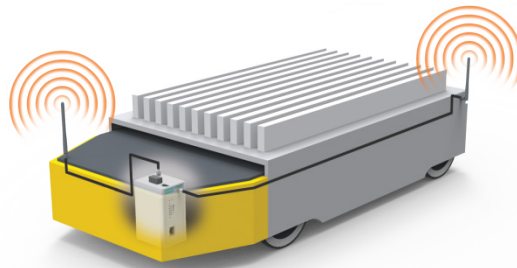

Fig. 6: Installing MIMO antennas on both ends of a moving vehicle can improve the quality of your wireless communication.
2.4-GHz and 5-GHz wireless transmission requires maintaining Line of Sight (LoS) between the AP and the client. Even though the wireless connection might still get through due to signal penetration and obstacle reflection, the reduction in signal strength can affect the stability and overall throughput. There are two things you can do to prevent the connection from being weakened by obstacles: increasing the AP's distribution, and using a better antenna for the client radio. If the wireless client supports MIMO antennas, installing antennas on both ends of the vehicle (Fig. 6) will ensure better signal reception to avoid LoS problems caused by merchandise loaded on the vehicle.